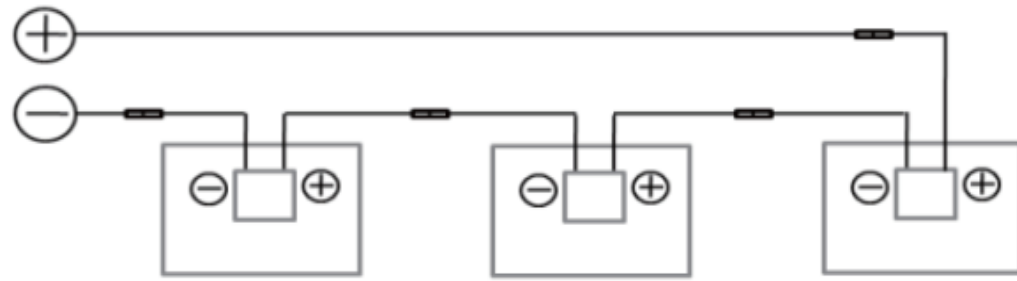
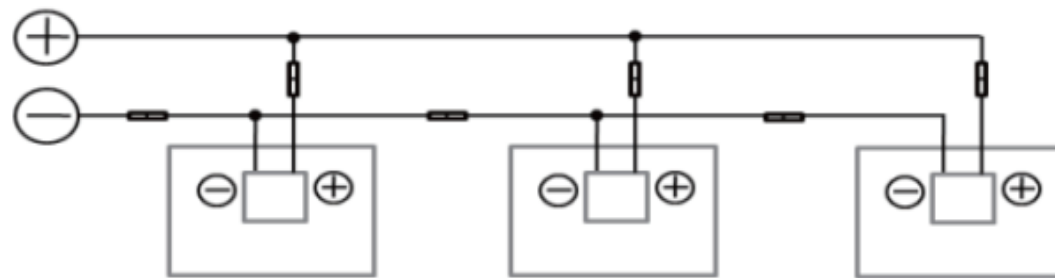
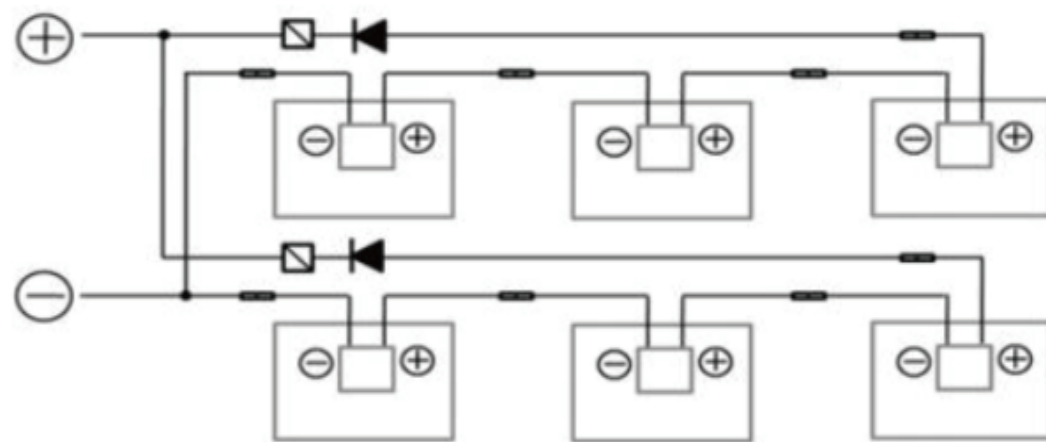

Figure 10-1 Series Connection
Figure 10-2 Parallel Connection
Figure 10-3 Series parallel connection
8.3 To ensure proper system operation, make sure the cable is properly connected when connecting Photovoltaic modules or loads. If the Photovoltaic modules are not correctly connected, the bypass diode and the junction box may be damaged. The photovoltaic modules are connected in series (Figure 10-1), parallel (Figure 10-2) and string and parallel (Figure 10-3). The number of Photovoltaic modules in series and parallel should be reasonably designed according to the system configuration. Also note that if the number is 2 in parallel, there must be an overcurrent protection device on each string assembly.